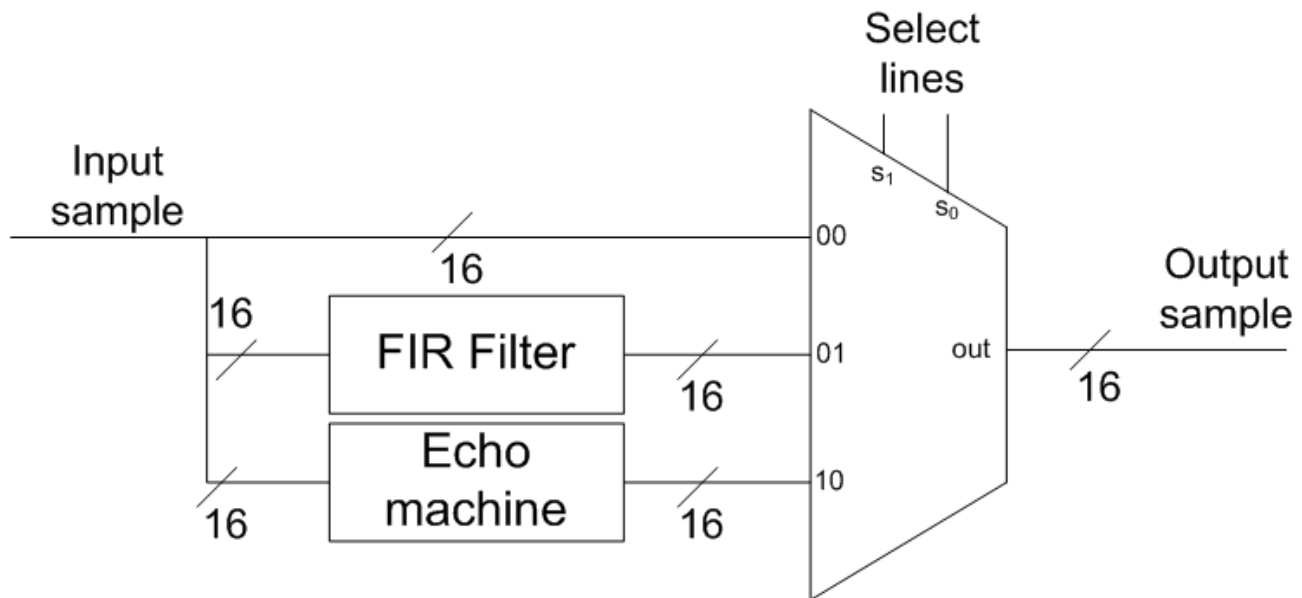

Figure 2: DSP Subsystem Block Diagram
When you open `dsp_subsystem.v` you will notice that the output is directly connected to the input, which means that samples are simply forwarded to the output, without any processing. If you compile this project and download it to the DE1-SOC board, you should be able to hear yourself when the microphone is selected, and hear whatever is on the line-in input when line-in is selected by switch SW[2]. To complete the lab, you are required to implement an FIR filter and an echo machine. You will also create a multiplexer which will allow you to select what data gets sent to the output, as shown in Figure 2.
6. Instantiate your FIR filter and the echo machine inside the `dsp_subsystem.v` file and connect them to the multiplexer, as depicted in Figure 2.